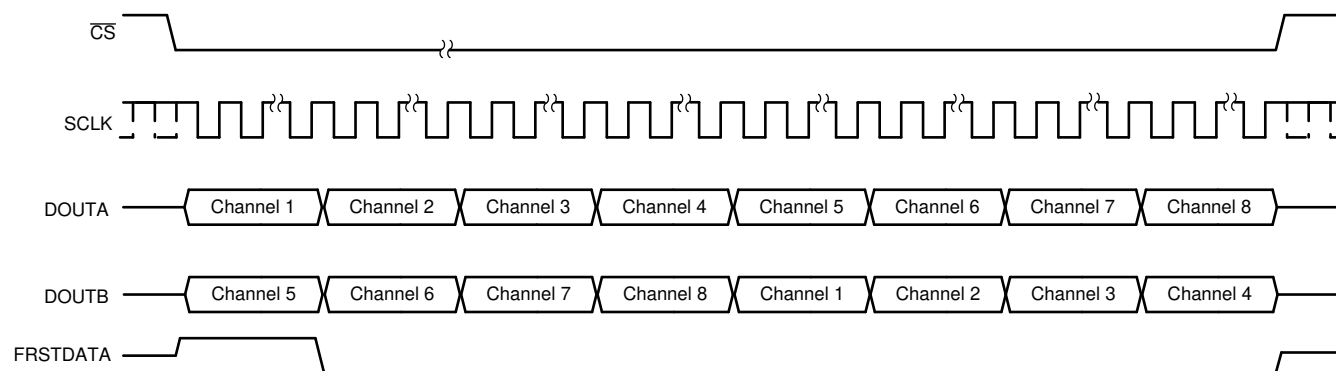

Figure 7-18. Data Read Back in the Serial Interface Using Either DOUTA or DOUTB Timing Diagram
- The conversion data can be read out of the device using only one of the two serial output lines, DOUTA or DOUTB. In this case, using DOUTA for output data read back is recommended because channel 1 data appear first on DOUTA followed by the data for other channels in ascending order. To read the data for all channels, provide a total of $16 \times 8 = 128$ SCLK cycles. This entire data frame can be created within a single $\overline{CS}$ pulse or each group of 16 SCLK cycles can be individually framed by the $\overline{CS}$ signal. The primary disadvantage of using just one data line for reading conversion data is that the throughput is reduced if a data read operation is performed after conversion. Figure 7-18 illustrates this operation.
- Alternatively, only DOUTB can be used for reading the conversion data from all channels. In this case, everything else remains the same and the output bit stream contains data for all channels in the following order: channels 5, 6, 7, 8, 1, 2, 3, and 4. Figure 7-18 illustrates this operation.